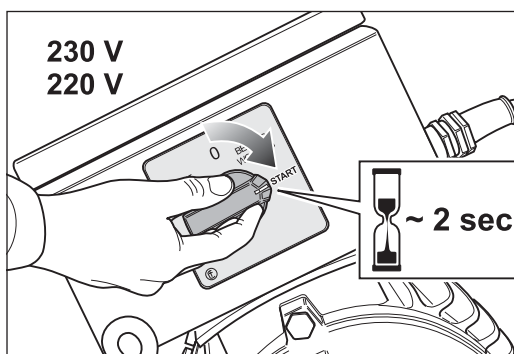

Fig. 19 To switch on the motor turn the switch button to position -START- and hold the switch button for around 2 seconds in this position.
- 2 To switch on the motor turn the switch button to position -START- and hold the switch button for around 2 seconds in this position (Fig. 19).